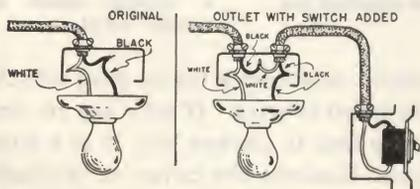

Fig. 16-11. Proper method of adding a single-pole switch to an existing outlet. If a pair of 3-way switches is to be added, see Fig. 9-15.
**Adding Switch to Existing Outlet:** The connection in the present outlet will look a great deal like the left-hand part of Fig. 16-11. There may be
more wires in the box than shown, but there will be only two wires connected to the fixture, one of them white, the other black. In the right-hand part of Fig. 16-11 is shown the same outlet after the addition of the switch. To make the proper connections at the fixture, cut the black wire to the fixture, thus producing two new ends of wire. These two new ends are connected to the two wires in the cable which runs to the switch. The black wire *from the fixture* is connected to the black wire in the new piece of cable; the black wire of the cable which runs up to the original outlet box, is connected to the *white* wire in the *new* piece of cable. This is contrary to general practice, but is the one case where the Code permits a black wire to be attached to a white, and is covered in more detail in connection with Fig. 9-9 in Chap. 9.